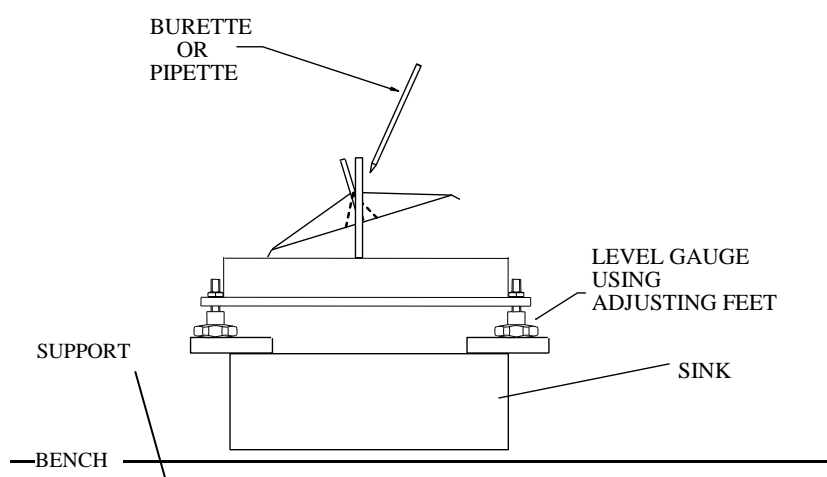

Figure 7. Setup for Static Calibration
1. Install the gauge over a sink unit as illustrated in Figure 7, ensuring that it is correctly levelled.